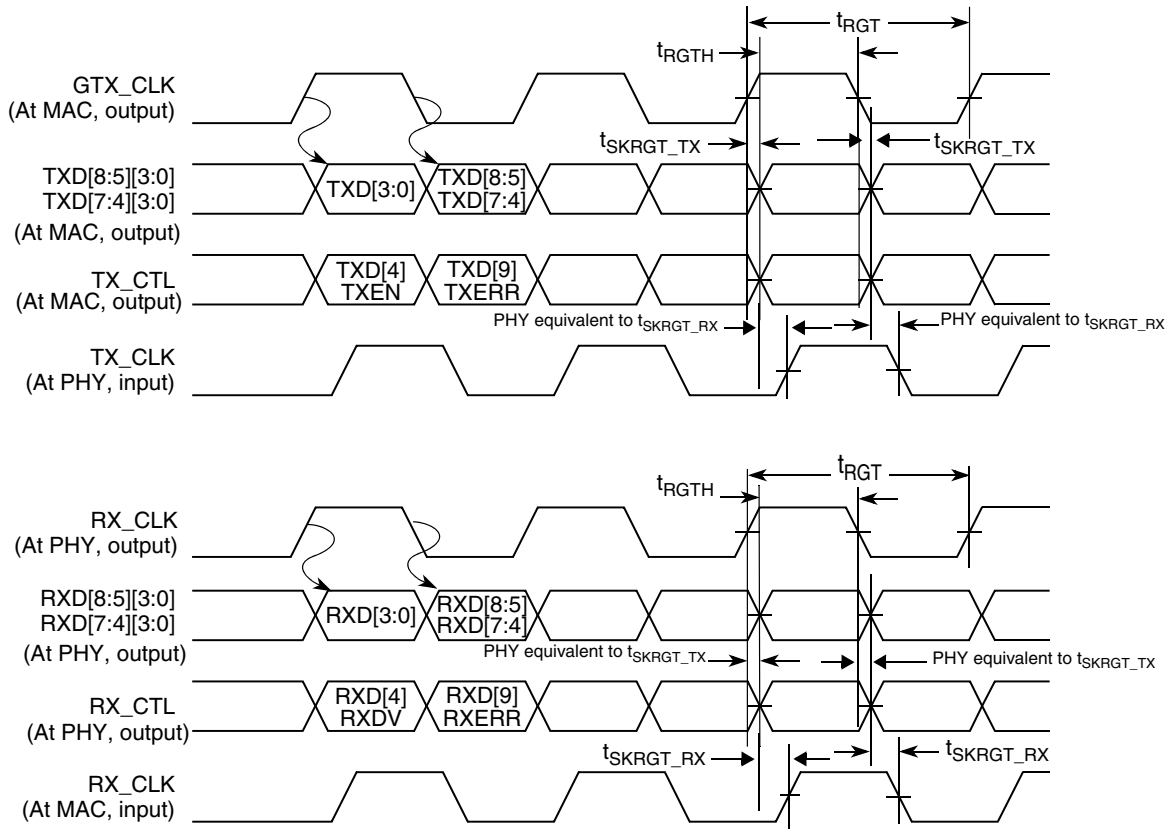

Figure 25. RGMII AC timing and multiplexing diagrams
8. In general, the clock reference symbol representation for this section is based on the symbols RGT to represent RGMII timing. Note that the notation for rise (R) and fall (F) times follows the clock symbol that is being represented. For symbols representing skews, the subscript is skew (SK) followed by the clock that is being skewed (RGT).
9. See Figure 25. on page 103.